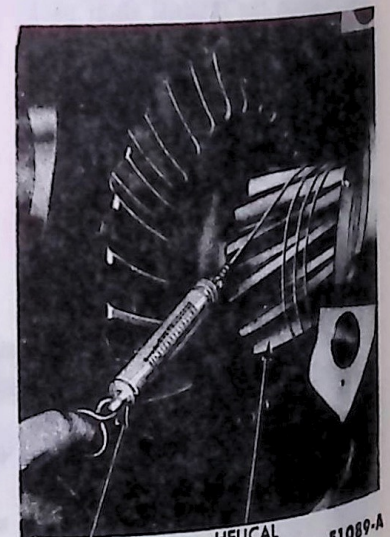

FIG. 28 Checking Cross Shaft Bearing Pre-Load
5. Rotate the cross shaft several times to be sure that the bearing contact is normal. Then check the cross shaft bearing preload as shown in Fig. 28. Do not read the pull required to start the cross shaft rotating. Read only the steady rotating pull on the scale. To change the scale reading into in-lbs torque, multiply the scale reading by one-half the diameter of the helical pinion gear at the point where the cord is wound around the gear.